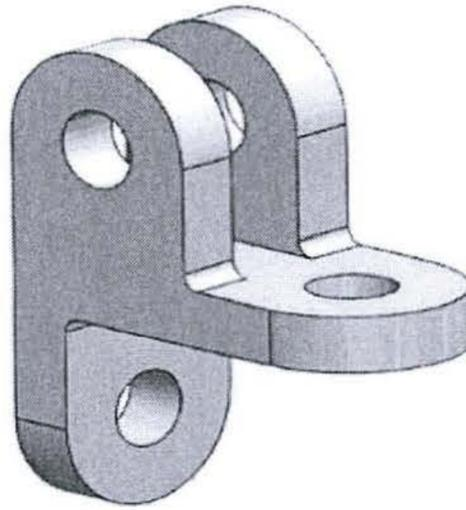

Figure Q5: Simple metal part
- (c) Suggest and fully justify the most ideal building orientation for the metal part shown in Figure Q5 given that it is to be manufactured via selective laser melting. [15]